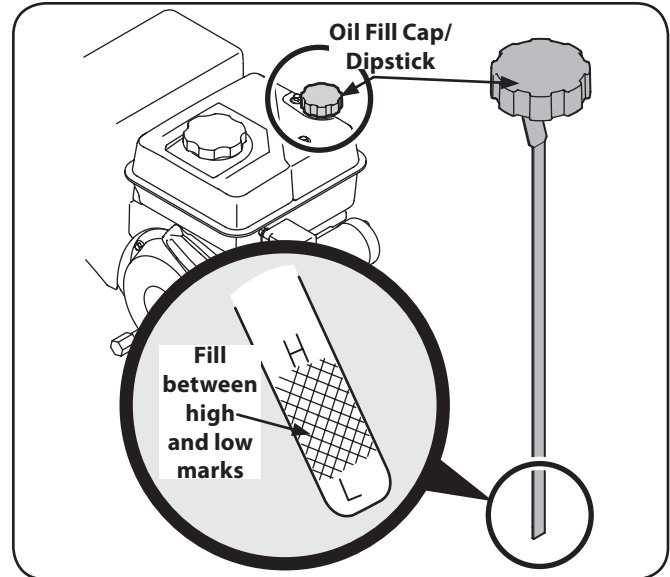

Figure 2-2
1. Remove the oil filler cap/dipstick and wipe the dipstick clean. See Fig. 2-2.
3. Remove the oil filler cap/dipstick. If the level is low, slowly add oil until oil level registers between high (H) and low (L), Fig. 2-2.